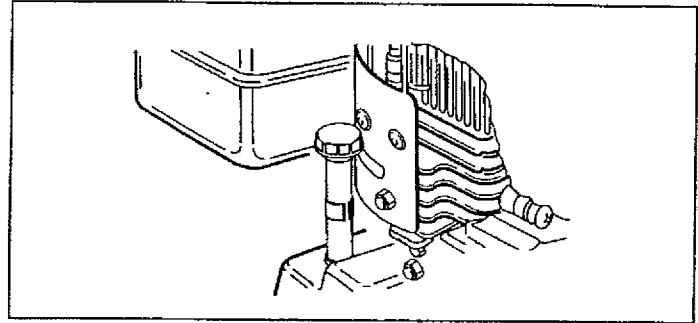

FIG. 4
- Place generator on a level surface and remove oil fill plug (Fig. 4). Fill with Sears SAE 30 detergent oil to point indicated on oil dipstick. SAE 10W-30 oil may also be used. **DO NOT USE SAE 10W-40 OIL.** POUR SLOWLY. Oil capacity of engine is 1.5 U.S. pints. When oil pan is full, install and tighten oil fill plug.